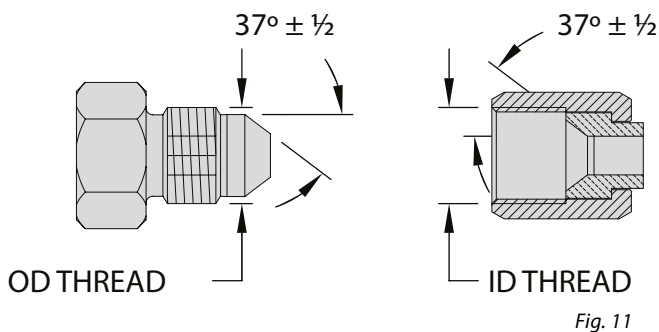

Fig. 11
**Joint Industrial Commission (JIC) 37° Flare** is a very common fluid power connection. The male half has a flare and the female half has a cone, both with a 37° seat. The seal is established by the flare and cone compressing together (Fig. 11).